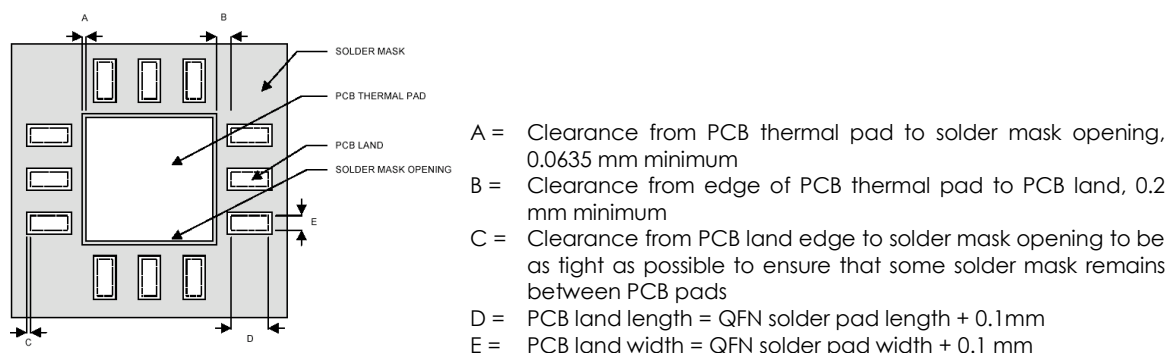

Figure 15: PCB land and solder mask recommendations
1. PCB land and solder masking recommendations are shown in Figure 15.